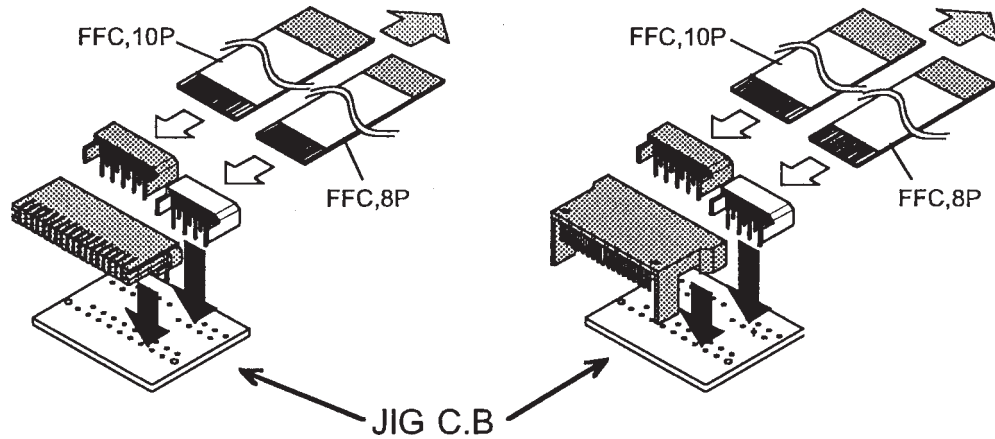

Fig. 2
- 3) Insert and solder the parts into JIG C.B (as shown by Fig. 2).
- 4) Insert FFC cable into each connector to connect a socket part and a plug part (Fig. 2).